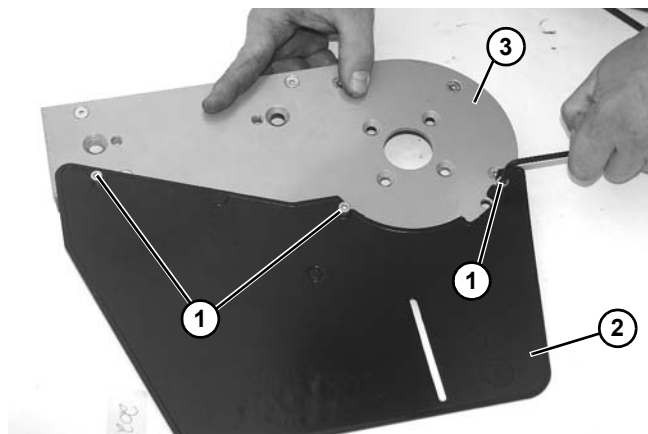

Figure 130
1. Remove three socket head screws (**Figure 130, item 1**) and remove drive plate guard (**Figure 130, item 2**) from drive plate (**Figure 130, item 3**).